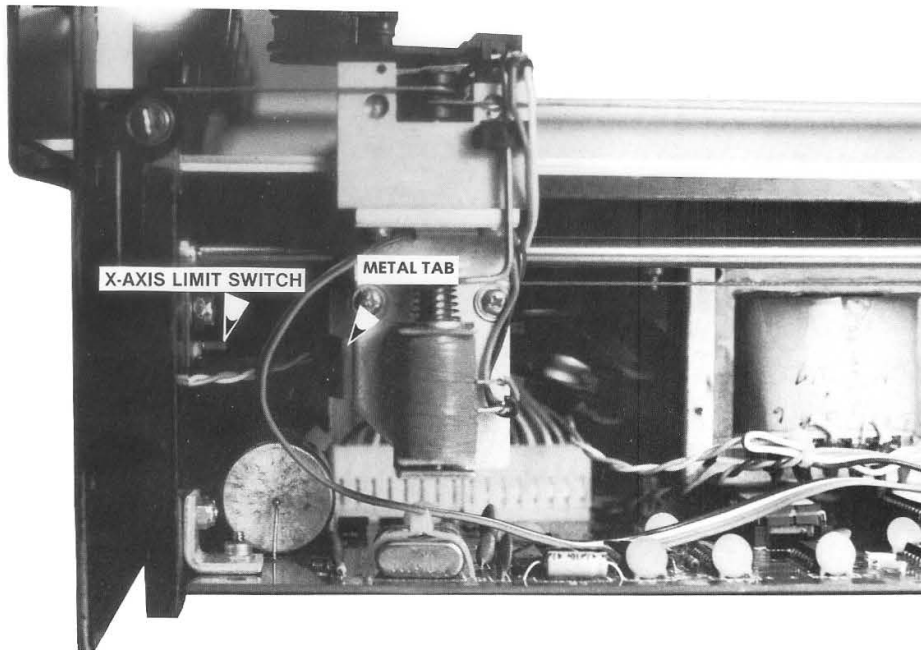

FIGURE 4-3
- 3) Locate the Limit Switch (see Figure 4-3) and the contacting metal tab.